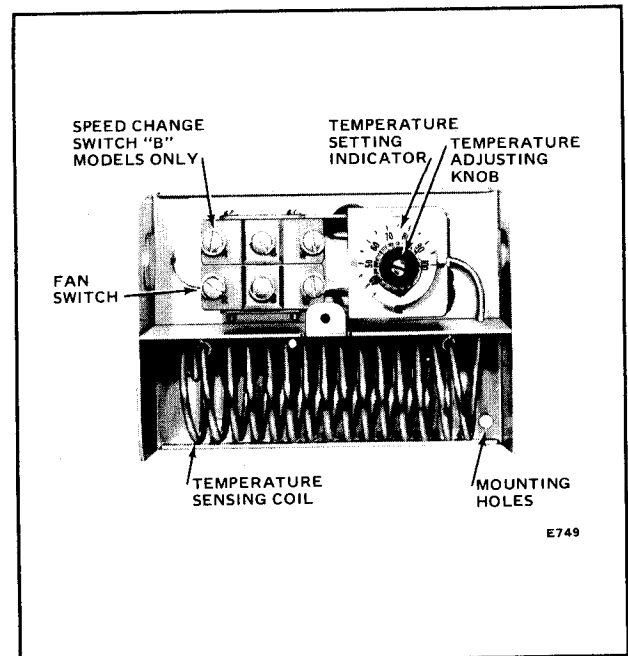

FIG. 9—T631B WITH COVER REMOVED. T631A AND C HAVE 3 WIRING TERMINALS ONLY.
2. Turn the temperature adjusting knob and scale across the indicator and back again. See Fig. 9. The controlled equipment should switch on and off. When wired for heating (R to B), turning the dial counterclockwise to a higher setting simulates a space temperature drop and the heating equipment should come on. When the controller is wired for a cooling or ventilating application (R to W), turning the dial clockwise to a lower setting simulates a rise in temperature and the cooling or ventilating equipment should come on.